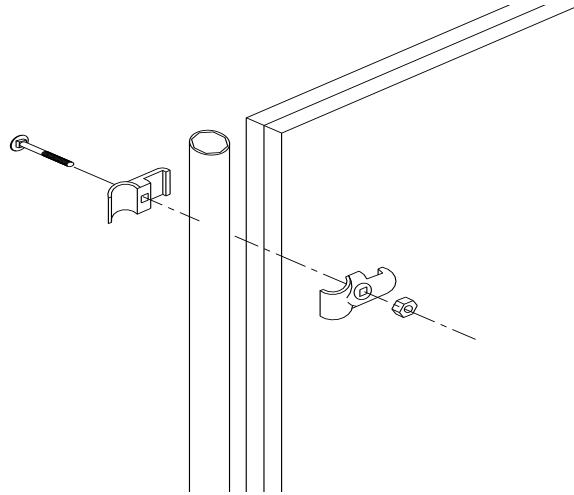

Figure 17.
1. Attach the filler pipes to the front end of each Division Panel with two square-round clamps (it takes two halves to make up one clamp) approximately 6" from either end of the filler pipe using the 5/16" x 1-3/4" galv. carriage bolts and 5/16" galv. nuts provided as shown in Figure 17.